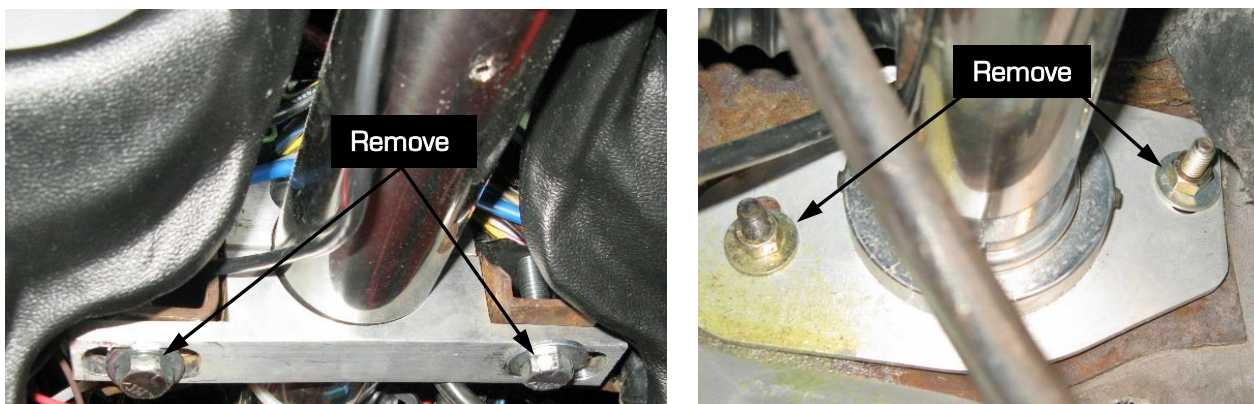

Figure 25 – Remove Steering Column Hardware
23. Remove the 2 bolts holding the steering column to the support brace, Remove the 2 carriage bolts from the lower part of the column (Figure 25). **NOTE:** The steering column used in the pictures below is from an aftermarket column.